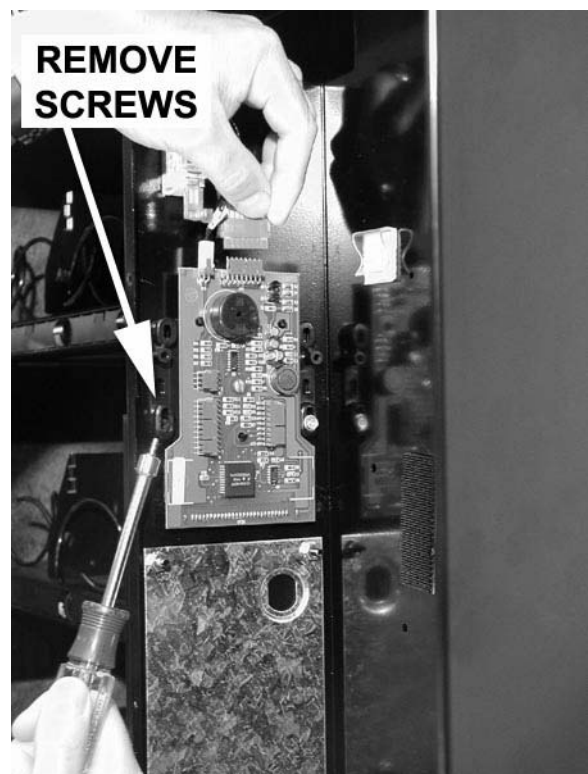

Figure 13
2. Remove two thread forming screws as shown (figure 13). Save them for later use.